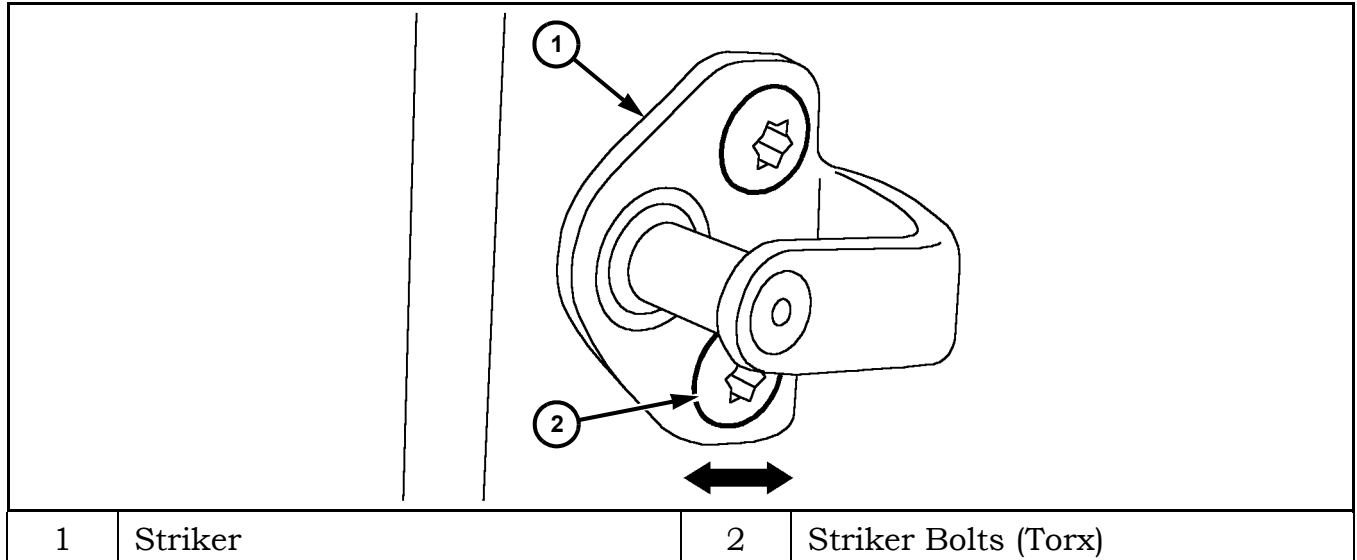

Figure 12 Rear of Door Flushness Adjustment
16. Loosen latch striker bolts (See Figure 12).
17. Adjust rear of door flushness by moving striker horizontally (arrow). See Figure 12. Rear edge of sliding door should be flush or with a 1 mm (0.039 in.) protrusion. Tighten latch striker bolts to 25 N·m (18 ft. lbs).